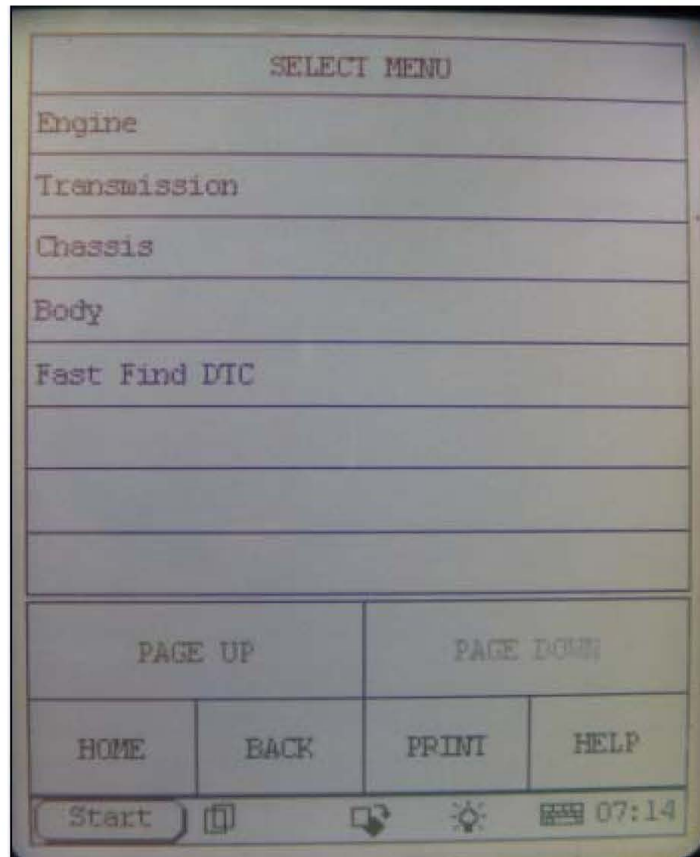

Figure 4
- For some models, there's no engine type displayed on bar code. In this case, select engine type according to the displacement. The 2nd and 3rd characters of engine type stand for the displacement. Take 2012 Astra-H for example. If the displacement is 1.7L, user can firstly select Z17DTL to enter the system. If failed, then select Z17DTH, and so forth. See Figure 4&5.